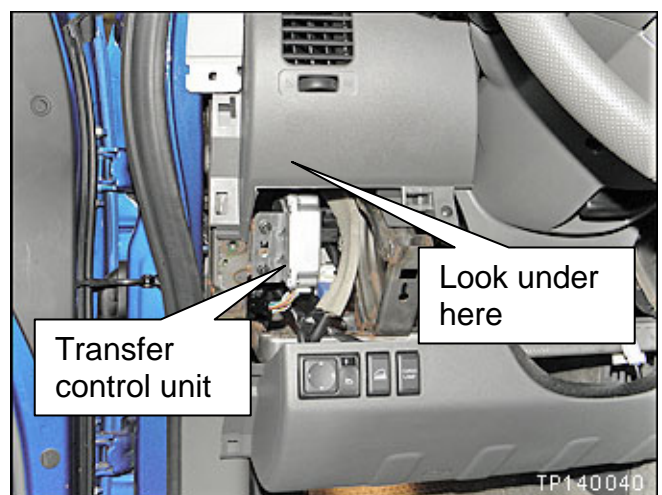

Figure 5
7. Look under the instrument panel where shown in Figure 5.